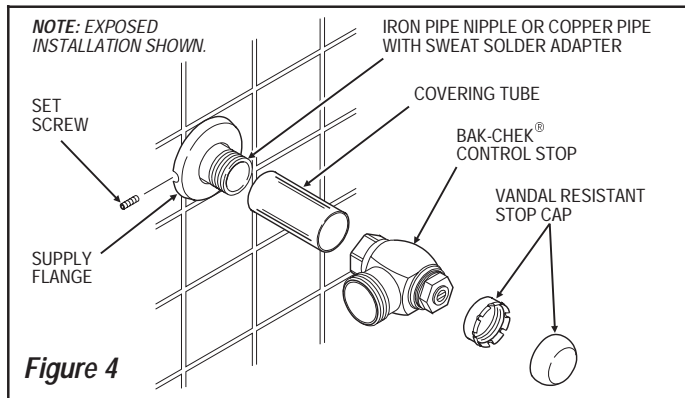

Figure 4
Step 2 — Control Stop Installation (Figures 4 and 5)